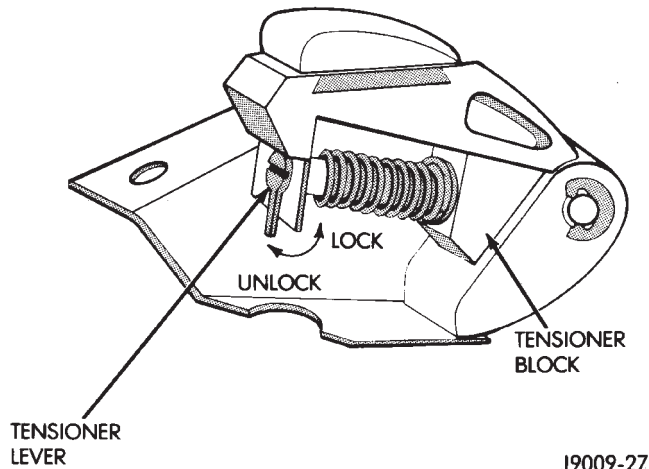

Fig. 48 Loading Timing Chain Tensioner
- (8) Turn the tensioner lever to the unlocked (down) position (Fig. 48).
- (9) Pull the tensioner block toward the tensioner lever to compress the spring. Hold the block and turn the tensioner lever to the lock position (Fig. 48).
- (10) Install the timing chain, crankshaft sprocket and camshaft sprocket with the timing marks aligned.
- (11) Install the camshaft sprocket retaining bolt and washer. Tighten the bolt to 108 N·m (80 ft. lbs.) torque.
(12) Release the timing chain tensioner by moving the lever to the unlock position (Fig. 48).